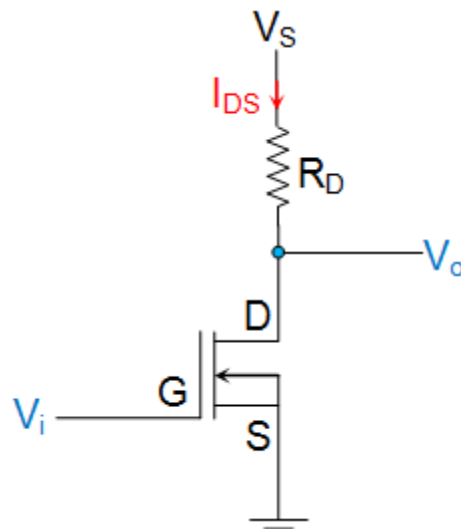

Figure 3. n-Channel Depletion type MOSFET functioning as a switch
Next, Figure 3 shows the case wherein the p-channel enhancement **MOSFET is used as a switch**. Here it is seen that the supply voltage V_S is applied at its source terminal (S) and the gate terminal is provided with the input voltage V_i